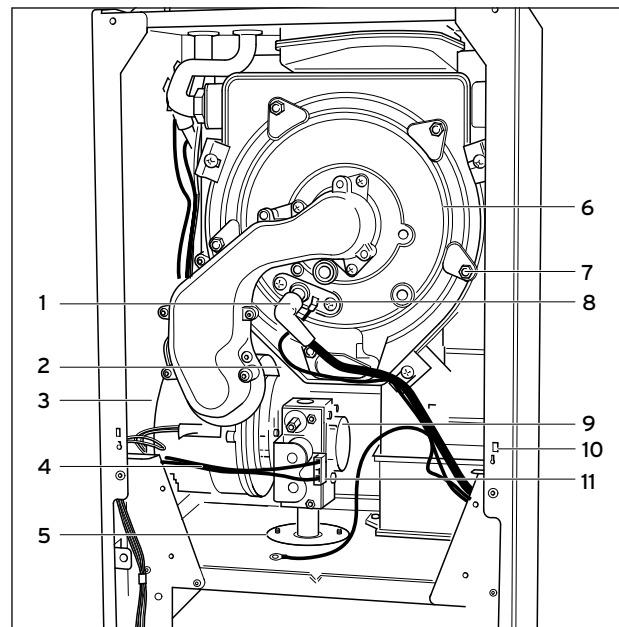

Fig. 8.6 Fan, gas valve and burner
The burner door seal and combustion chamber burner door securing nuts on the burner module, see figs 8.6 and 8.7 must be replaced each time the module is removed for example during maintenance if the burner flange insulation shows any signs of damage or small cracks it must also be replaced. Isolate the gas supply at the gas service cock. Disconnect the gas supply at the gas service cock.
- Gently remove the fan, gas valve and burner assembly from the combustion chamber complete with the gas pipe bracket and seal, see fig 8.6.